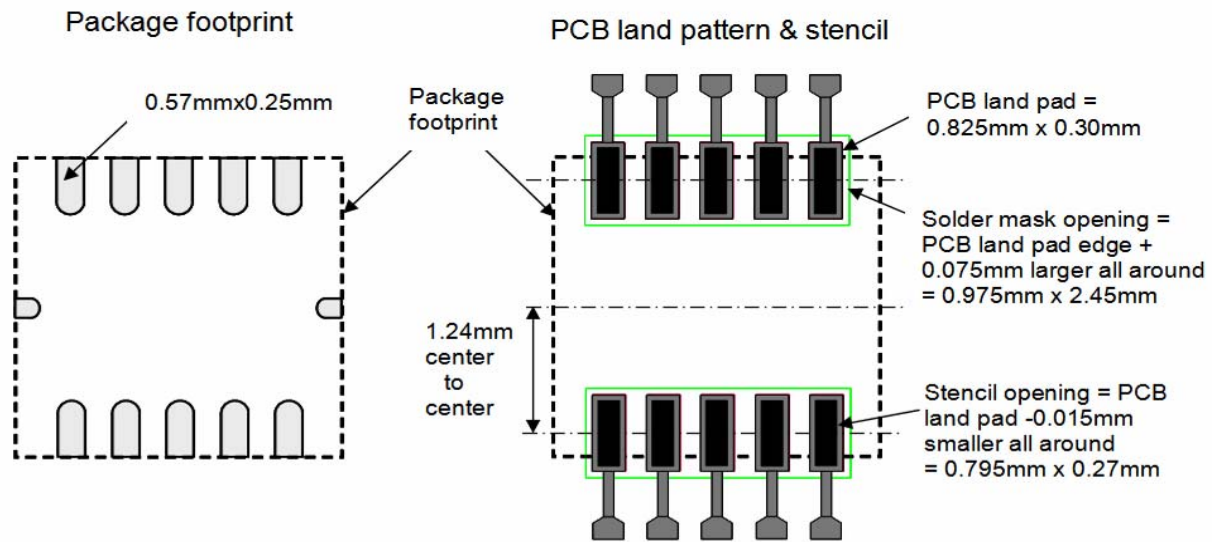
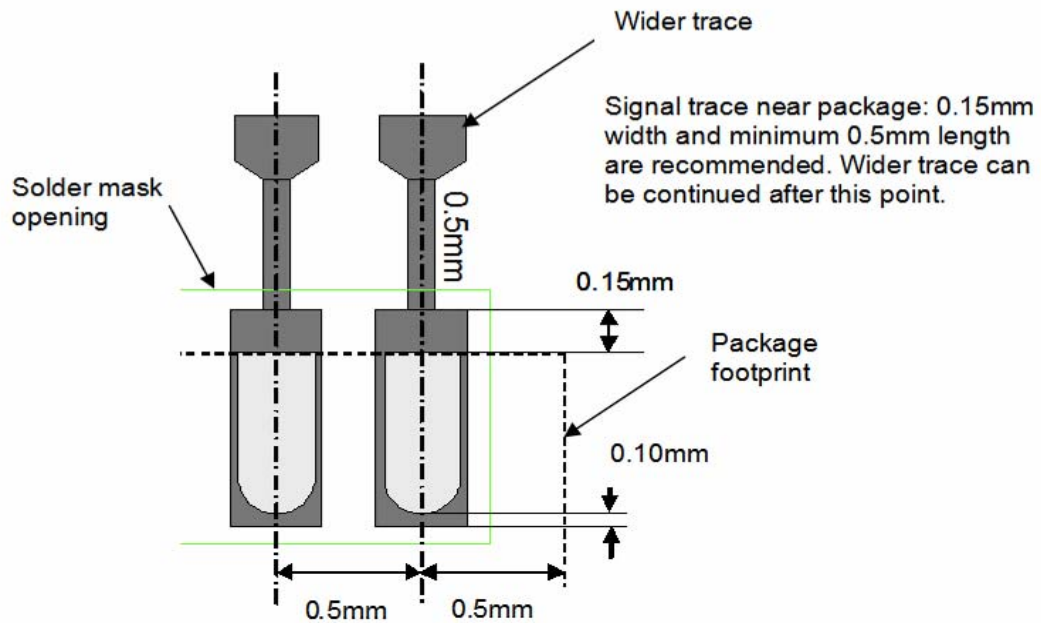

Figure 15. Package Footprint, PCB Land Pattern, and Stencil Design
Figure 16. PCB Land Pattern Detail
1. The PCB land should be designed with Non Solder Mask Defined (NSMD) as shown in Figure 15 and Figure 16
3. PCB land pad is 0.825 mm x 0.3 mm as shown in Figure 15 and Figure 16.
9. Signal traces connected to pads should be as symmetric as possible. Put dummy traces on NC pads in order to have same length of exposed trace for all pads. Signal traces with 0.15 mm width and minimum 0.5 mm length for all PCB land pads near the package are recommended as shown in Figure 15 and Figure 16. Wider trace can be continued after the 0.5 mm zone.